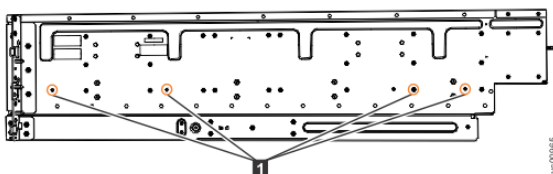

Figure 51. Screw locations to attach the inner rail to the enclosure
4. Use four M4 screws to attach the inner rail to the side of the enclosure. Figure 51 on page 81 shows the screw locations.